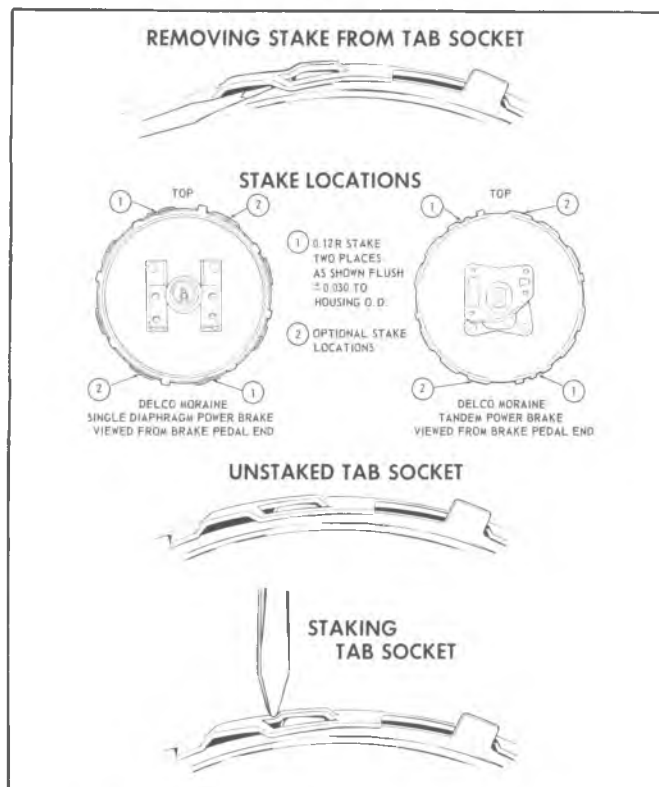

Fig. 5-9A--Staking Power Brake Housings
Mark staked interlocks so they will not be restaked. Then straighten staked interlocks (Fig. 5-9A).
6. Rotate the bar clockwise into locked position. Remove bar from front housing. Stake housing interlocks at 2 new locations 180° apart (fig. 5-9A).